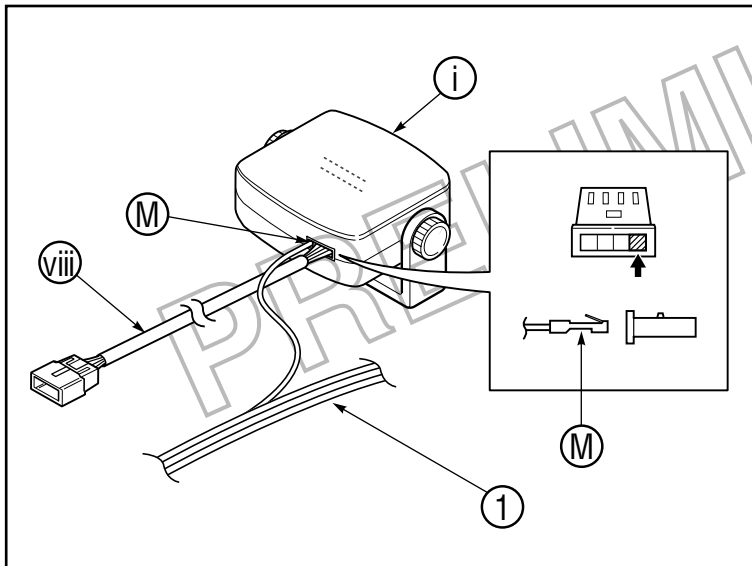

Figure 55
- a) Insert the yellow wire terminal (M) of TVSS wire harness (1) to the radar sensor harness (viii) connector into the position as shown in fig 55.
- b) Connect the radar sensor harness (viii) connector to the radar sensor (1).